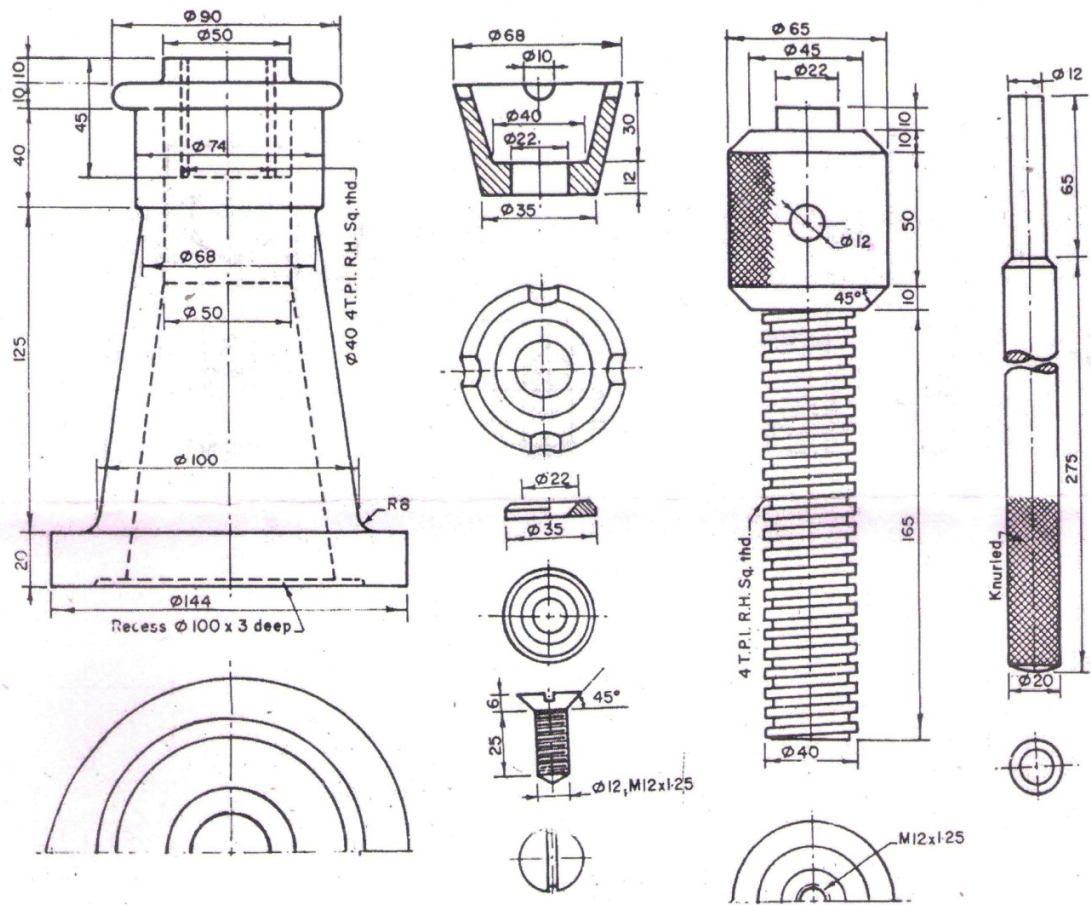

FIG.1
14. Assemble the parts of **Screw Jack** given in Fig.1 and draw the following views (with bill of materials) :